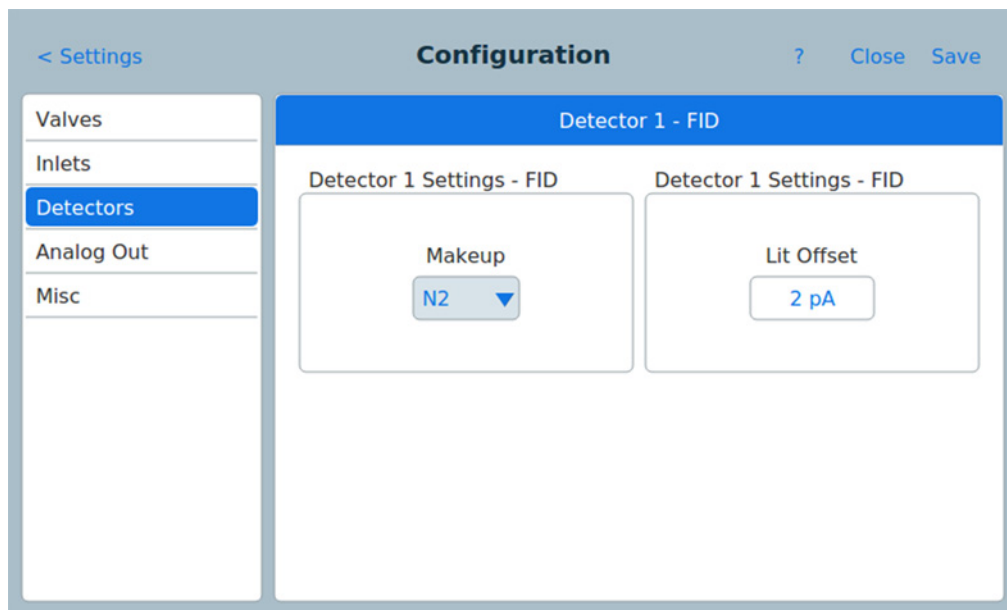

Figure 61 Detectors page
- 3 Press the **Detectors** device type from the list on the left side of the screen. The properties for the selected device type appear on the right side of the screen. See Figure 61.